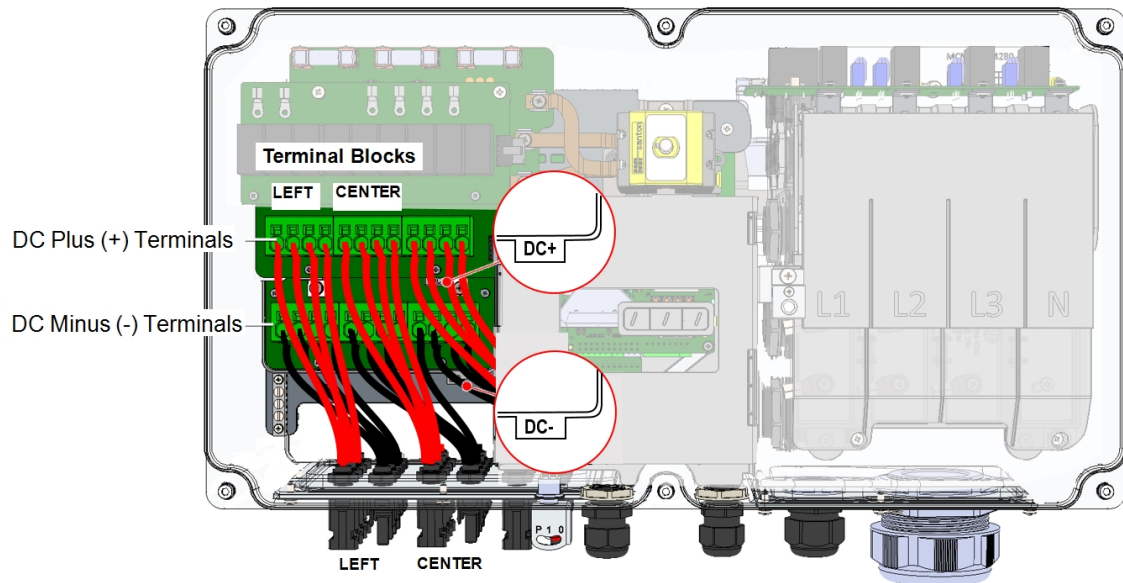

Figure 1: Disconnecting wires from DC+ and DC- terminals inside the Manager Unit
1. Disconnect all DC wires from DC+ and DC- terminals (see Figure 1).